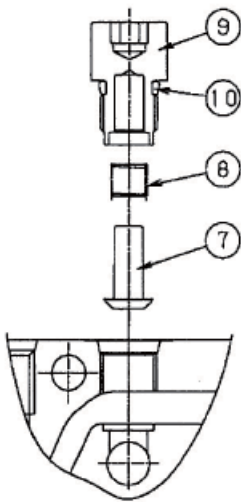

Figure 14. Check valve
(3) Check valve assembly procedures
■ Standard type check valve (see figure 14)
- ① Hold the control valve body at workbench or hold it by two or more people.
- ② Assemble check valve (⑦) and check valve spring (⑧) in sequence at the center of control valve top surface.